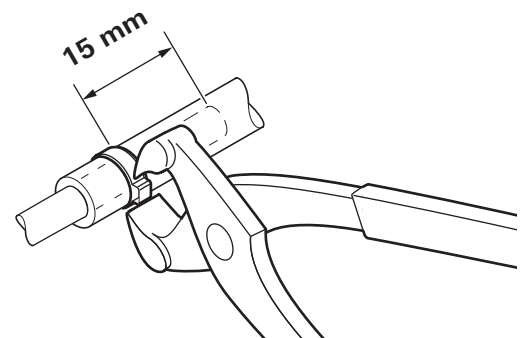

Fig. 24
- ▶ Position the single ear clamps, making sure that the fuel line extends at least 15 mm beyond the single ear clamps (Fig. 24).